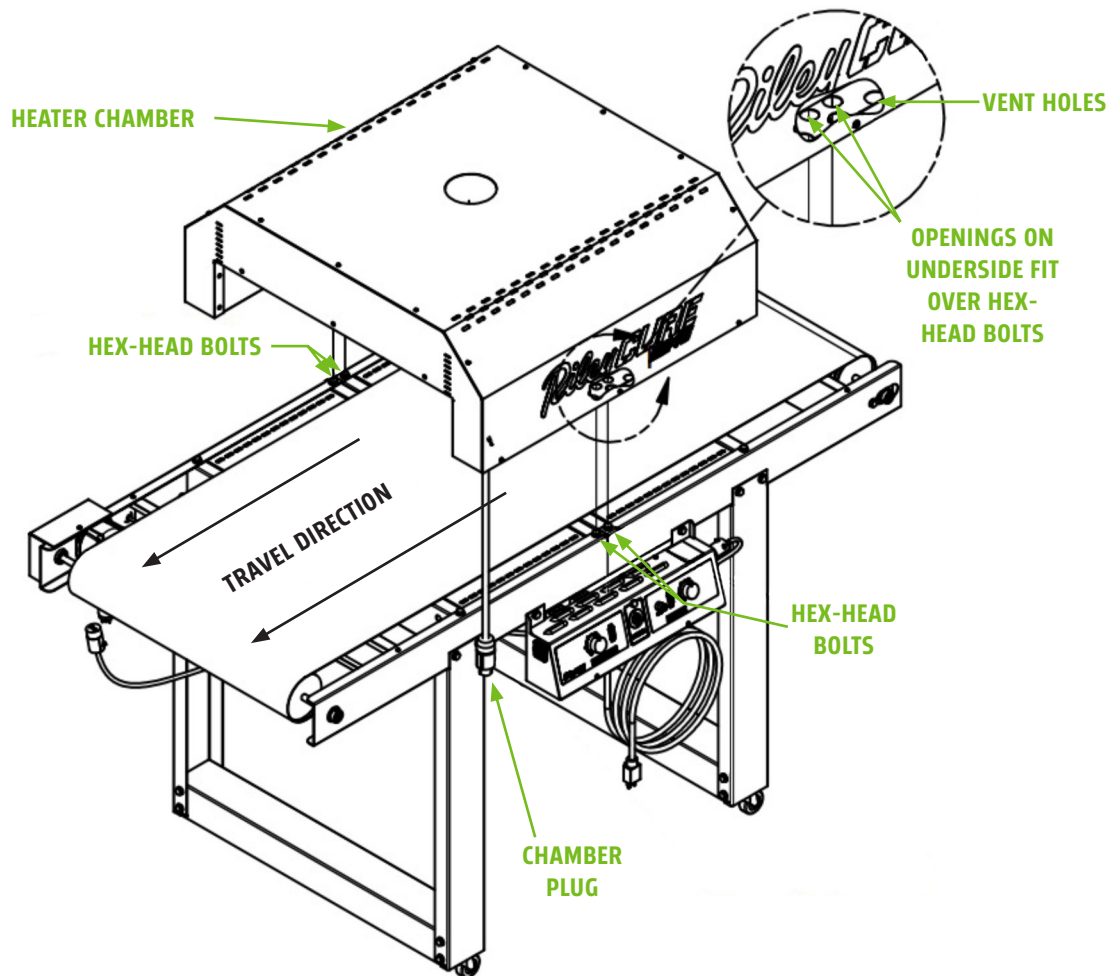

FIGURE 11
1. Using two people, set the Chamber onto the conveyor bed (See **Figure 11**). The Heating Chamber Cord must be on the same side of the Conveyor Bed as the Control Panel.
2. The Heating Chamber has openings on the underside rails that fit over the Hex-Head Bolts (See Magnified View, **Figure 11**). The chamber should rest flatly on the conveyor bed.